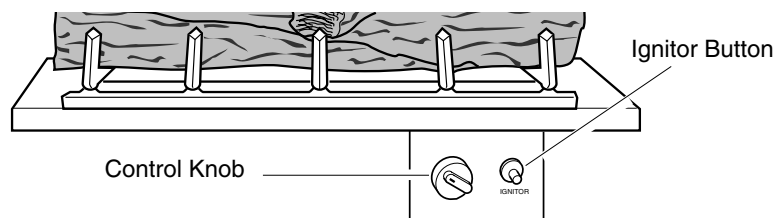

Figure 30 - Control Knob and Ignitor Button Location
4. Wait five (5) minutes to clear out any gas. Then smell for gas, including near the floor. If you smell gas, STOP! Follow "B" in the safety information above. If you don't smell gas, go to the next step.
5. Slightly depress and turn control knob counterclockwise  to the PILOT position. Press in control knob for five (5) seconds (see Figure 30, above).